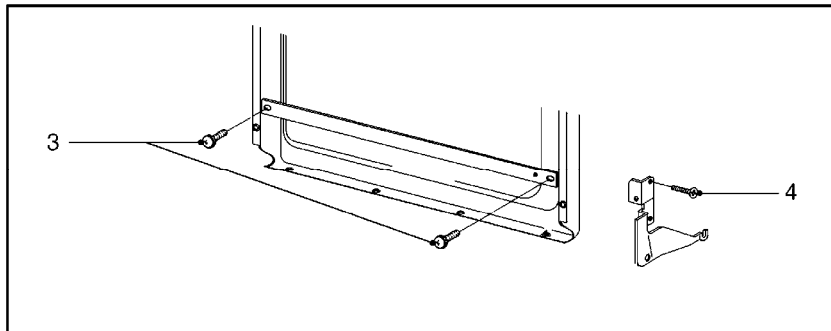

Figure 5-13: Inner Door Panel Removal
8. Remove the Screws (Figure 5-13 – Item 3).
9. Open the Door. Remove the Raised Head Screws (Figure 5-13 – Item 4).